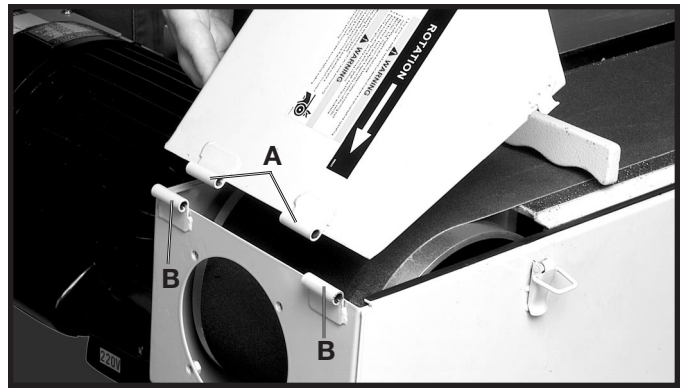

Fig. 14
1. Align the hinges (A) Fig. 14, on the cover, with the hinges (B) on the belt guard.